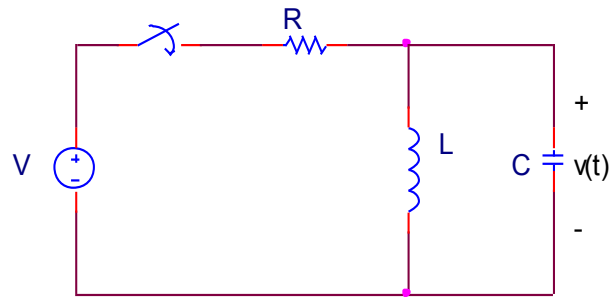
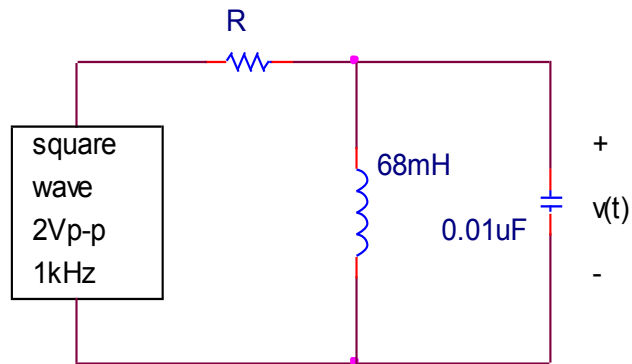

Figure 8.3
Figure 8.5
2. Repeat 1 for the circuit in Figure 8.3 (same L and C).
2. Repeat step 1 for the circuit in Figure 8.5 (used to measure $v(t)$ for the circuit of Figure 8.3).